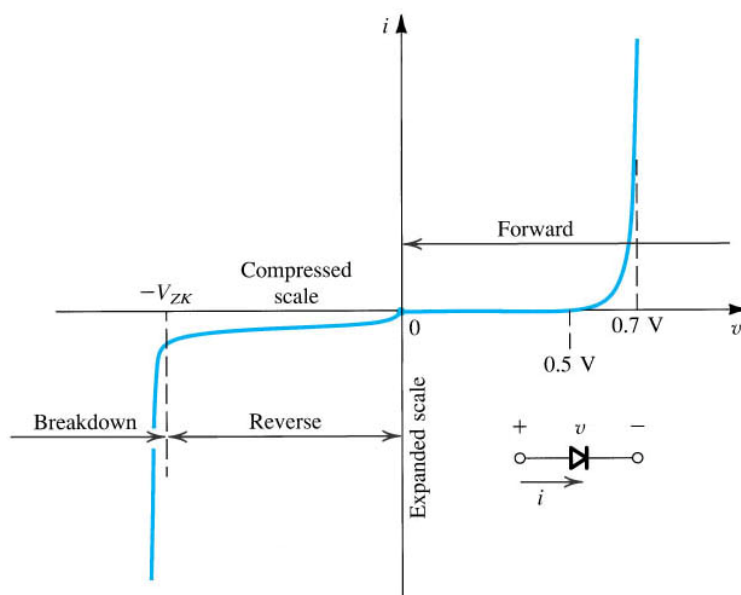

Figure 5.7: The diode $i - v$ relationship with some scales expanded and others compressed.
- * Example: Cut-in voltage $V_{\text{cut-in}}$ in Figure 5.7 is $0.5V$.